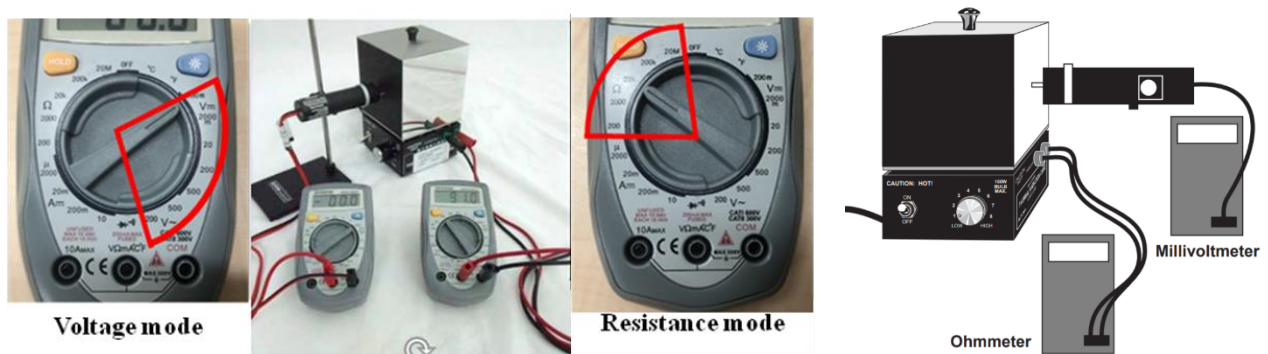

Fig. 7: Experimental setup for observing radiation rates from different surfaces
- (i) Switch the modes of two multimeters and connect them as shown in Fig. 7.